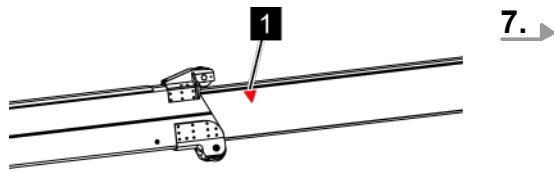

Fig. 131: Red arrows
- Always only retract the telescopic arm until the red arrows (Fig. 131/1) on the bearings are no longer visible.